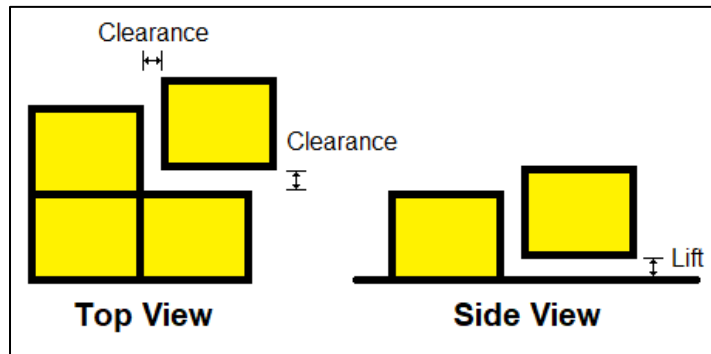

Figure 28 - Clearance and Lift definition
The **Clearance** and **Lift** parameters are illustrated in Figure 28. When performing blind palletization, it is helpful for the robot to bring the object close to its destination and then snug it up to other objects when close. The **Clearance** parameter specifies the lateral (X,Y) offset (in mm) for initial placement of the object before moving to the final position. The **Lift** parameter specifies the vertical (Z) offset (in mm) from the final position when performing the initial placement. When palletizing an object with nonzero **Clearance** and **Lift** parameters specified, the robot will move the object to the retract distance above the placement location, considering the clearance. It will then lower the object to the **Lift** distance above the final placement location, offset in X and Y by the **Clearance** distance. It will then move to the correct (X, Y) lateral position, still offset in height (Z) by the **Lift** distance, and then will finally lower the object to the final location. This will have the effect of close-packing boxes, for example.